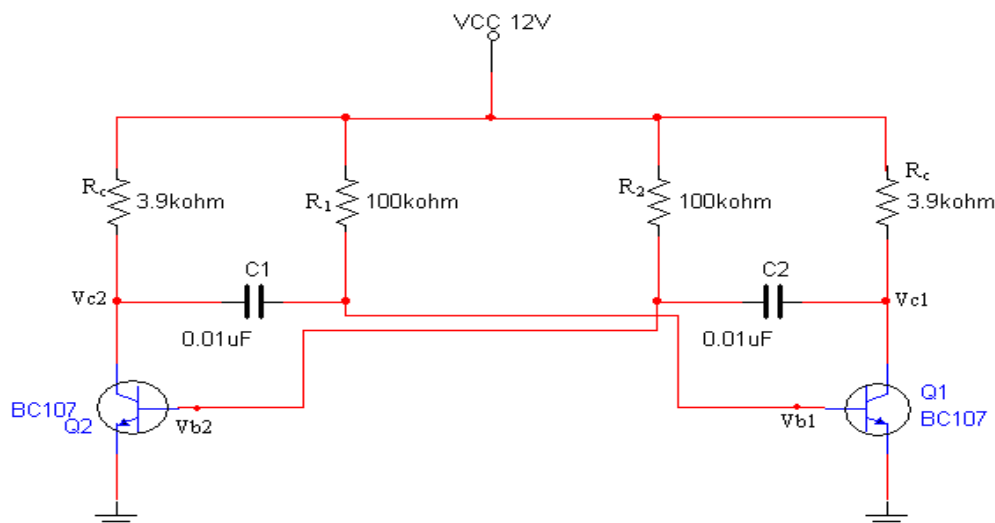

Fig 1 : Astable Multivibrator
1. Connect the circuit as per circuit diagram Fig 1.
2. Connect the circuit as per the circuit diagram shown in Fig 1.